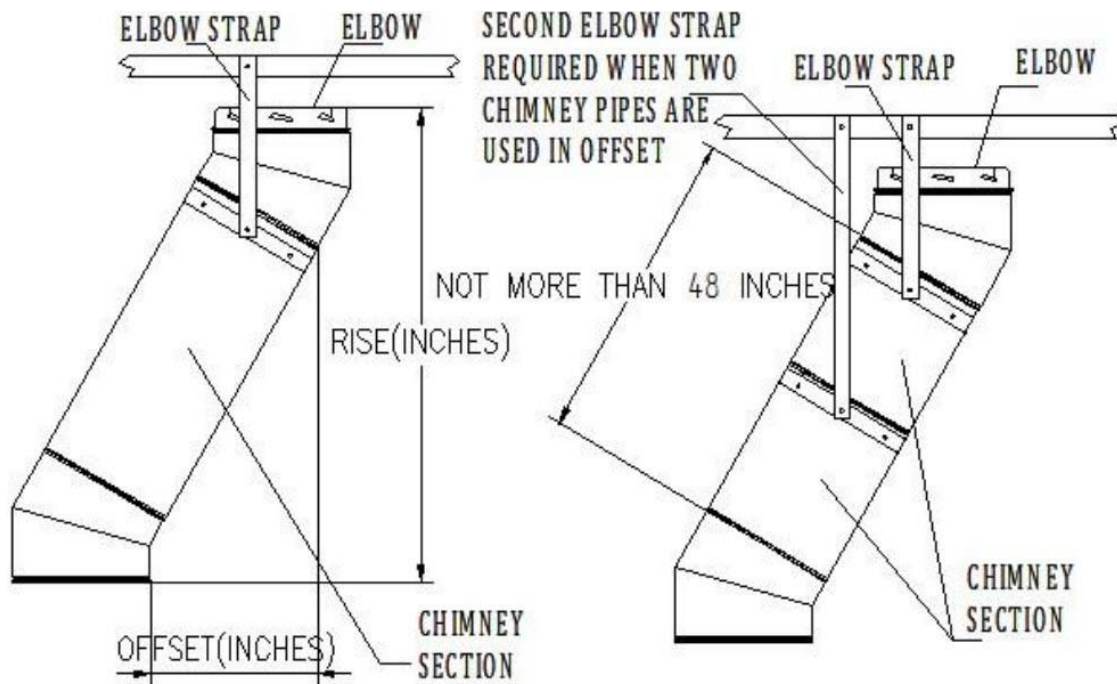

Fig 12
1. **Attach Elbows:** Attach Elbow to Chimney Section or other Elbow. Please note that the female end of the elbows are not lanced, in order to ensure proper alignment of the chimney system can be maintained. Locking bands are included and must be used at all chimney joints. Attach one Elbow to the Chimney Section below, and align it for the offset. Refer to **Table 2** to determine the required offset length and attach an appropriate length (or lengths) of Chimney Section(s) above the Elbow. Note: maximum of two chimney sections can be connected between Elbows. The maximum length of chimney pipe between elbows is not to exceed 72". Attach the second Elbow above the Chimney Section to complete the offset (Fig 12).
2. **Secure Offset:** Place the Elbow Strap's band around the angled portion of the top Elbow, then tighten the nut and bolt until the clamp is firm. Wrap the Elbow Strap end over an adjacent joist or rafter and secure it with at least (2) 8-penny nails or (2) #8, 1-½" screws. Do not add more Chimney Sections until the Elbows are supported. Be sure that the chimney remains vertical. If there is more than one Chimney Section between the Elbows, install a second Elbow Strap around the joint of the two Chimney Sections (Fig 12).